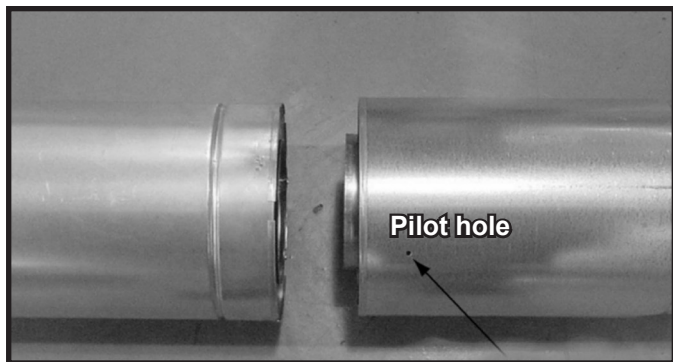

Figure 7.5 Slip Section Pilot Holes
- Slide the inner flue of the slip section into the inner flue of the pipe section and the outer flue of the slip section over the outer flue of the pipe section. See Figure 7.5.